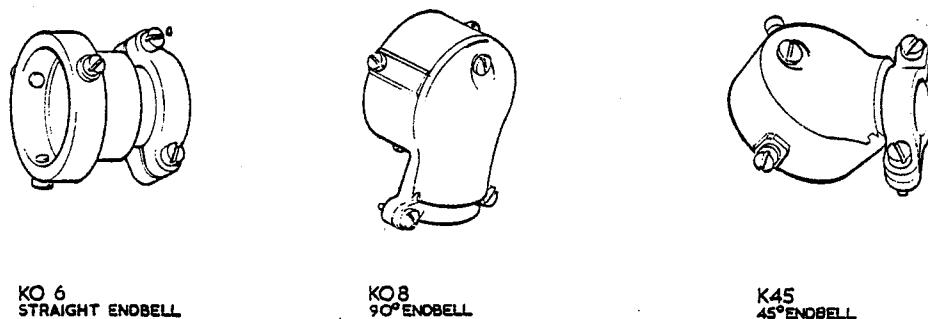

Fig. 4. KO series endbells
6. The endbells (cable clamps) shown in fig.4 are available in straight, 90 deg. angle and 45 deg. angle styles. For part number details reference should be made to para.2. Cable accommodation dimensions are controlled by the shell size of the endbells as follows:—